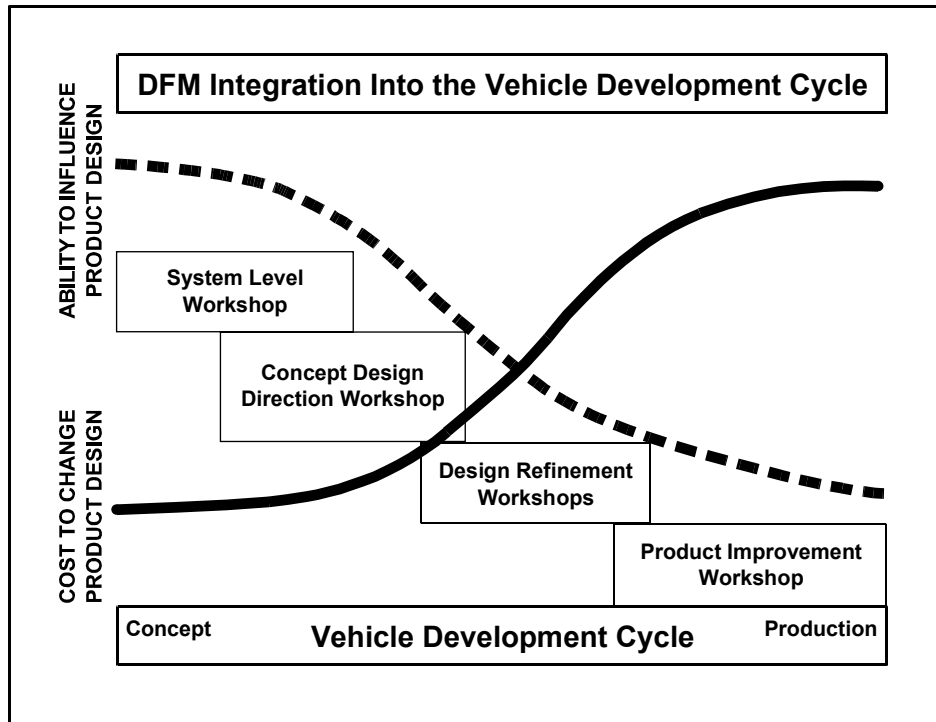

Figure 1
**Systems Level, Concept Design Direction, Design Refinement, and Production Improvements.** Their position in the design cycle is illustrated in Figure 1.